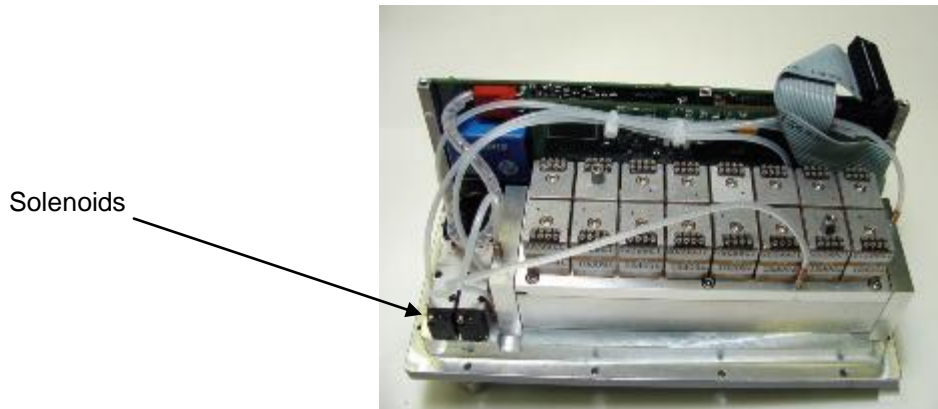

Figure 5.5
- (1) Disassemble the module as described in **Section 5.1.2**.
- (2) Carefully remove the two (2) Phillips-head screws from the top of the solenoid. Disconnect the solenoid from connector P6 of the PC-322 Main Board Assembly. See **Figure 5.5**.
- (3) If the either the new or old solenoid does not have a pluggable wiring harness at the solenoid, the new solenoid wires will require crimp pins to be installed for insertion in the P6 mating housing. The proper crimp pin is Molex part number 08-56-0110. After installing the crimp pins to the solenoid wiring, remove the old crimp pins from the Molex P6 housing and insert the new solenoid's wiring. Ensure that the new wires are installed in the same position as the old wires.